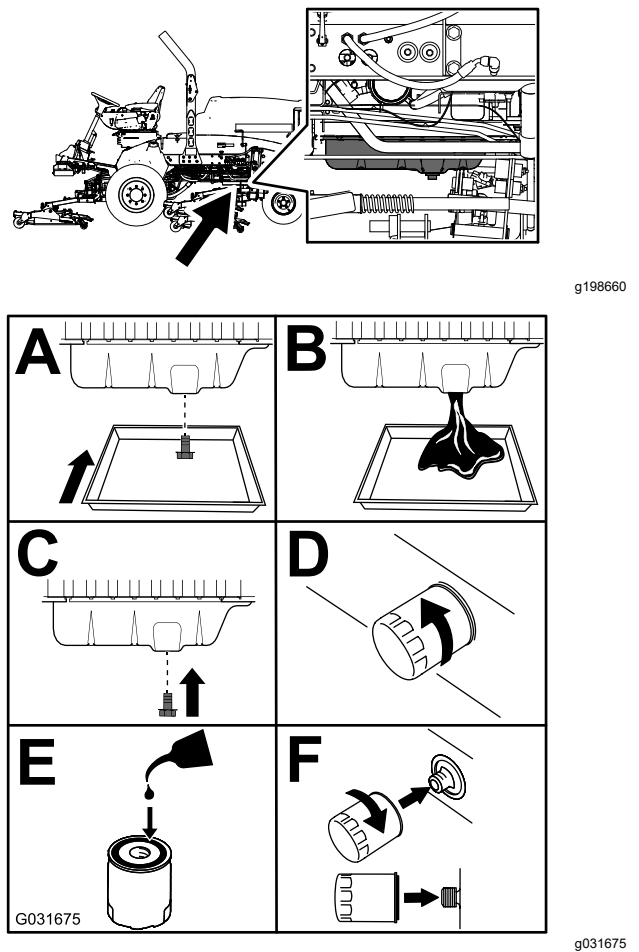

Figure 60
3. Replace the engine oil and filter (Figure 60).